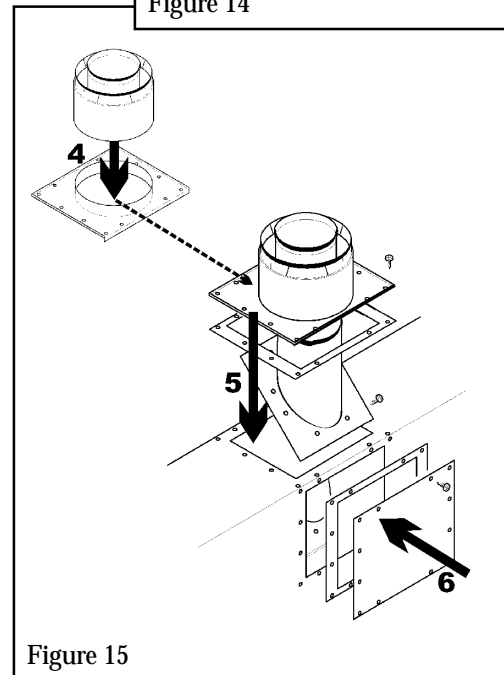

Figure 15
4. To make sure that the collars are axially aligned, fit the Dura-vent adapter (Kit No. 817VAK) over the outer flue collar. See figure 15.
5. Position the inner collar and seal vertically inside the top of the appliance. Drop the outer collar with adapter over the inner collar to ensure alignment. Secure the inner collar with 8 screws and the outer collar with 12 screws. See figure 15.
8. Fit the plate and seal (which was previously removed from the top) to the back of the appliance with 12 screws. See figure 15.